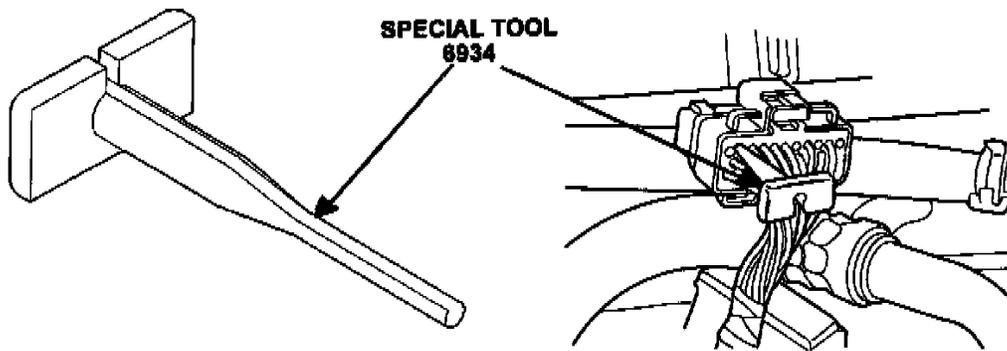

FIGURE 3 - Terminal Removing Tool
7. Then, insert the probe of special tool 6934 (Figure 3) into the back of the insulator cavity.